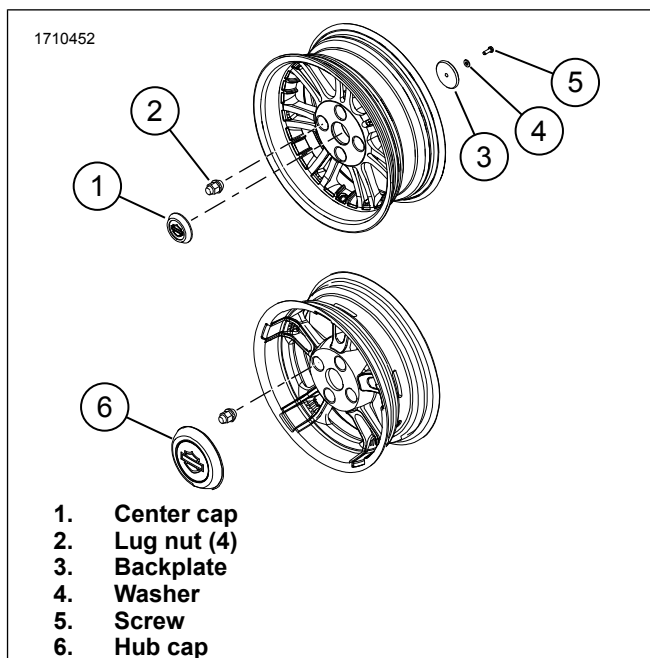

Figure 2. Wheel Cap Assemblies
1. See Figure 2. Loosen four lug nuts (2).
3. Remove lug nuts (2) and wheel.
4. Remove and discard screw (5), washer (4), backplate (3) and center cap (1).
- a. Install lug nuts (2) in a cross-wise pattern. **Do Not Tighten Completely.**
- c. Tighten lug nuts (2) in a cross-wise pattern.
1. See Figure 2. Locate access slot on diameter of hub cap (6).
2. Using appropriate tool remove hub cap (6).